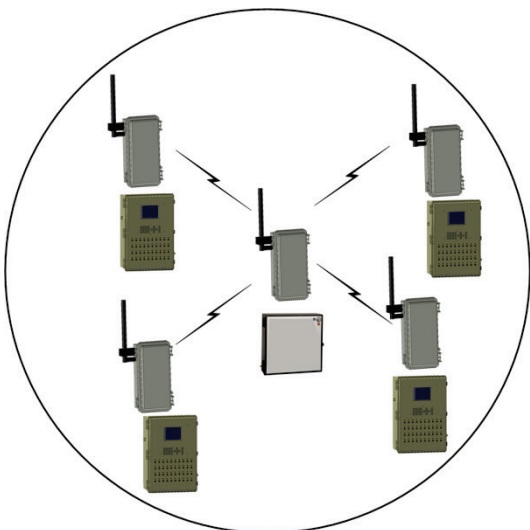

Figure 18: Placing RLINK ONEs Using an Omni-Directional Antenna
- When the supplied antenna is used, you can place the RLINK ONEs and controllers anywhere, 360 degrees around the central RLINK ONE (Figure 18).